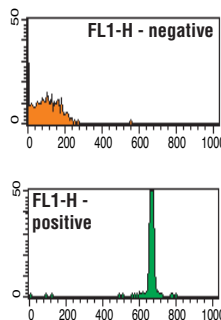

Figure 5
- Using the FL1 and/or FL2 channels (depending on the reporter antibodies used), determine whether or not any bead populations tested "positive" for the analyte. (Figure 5) *Note:* A positive bead will produce a fluorescent peak in the FL1 or FL2 channel. The minimum fluorescence intensity needed to be considered "positive" is based on the Relative Channel Value (RCV) of the peak. It is up to the investigator to determine what threshold RCV value will constitute a "positive" result.